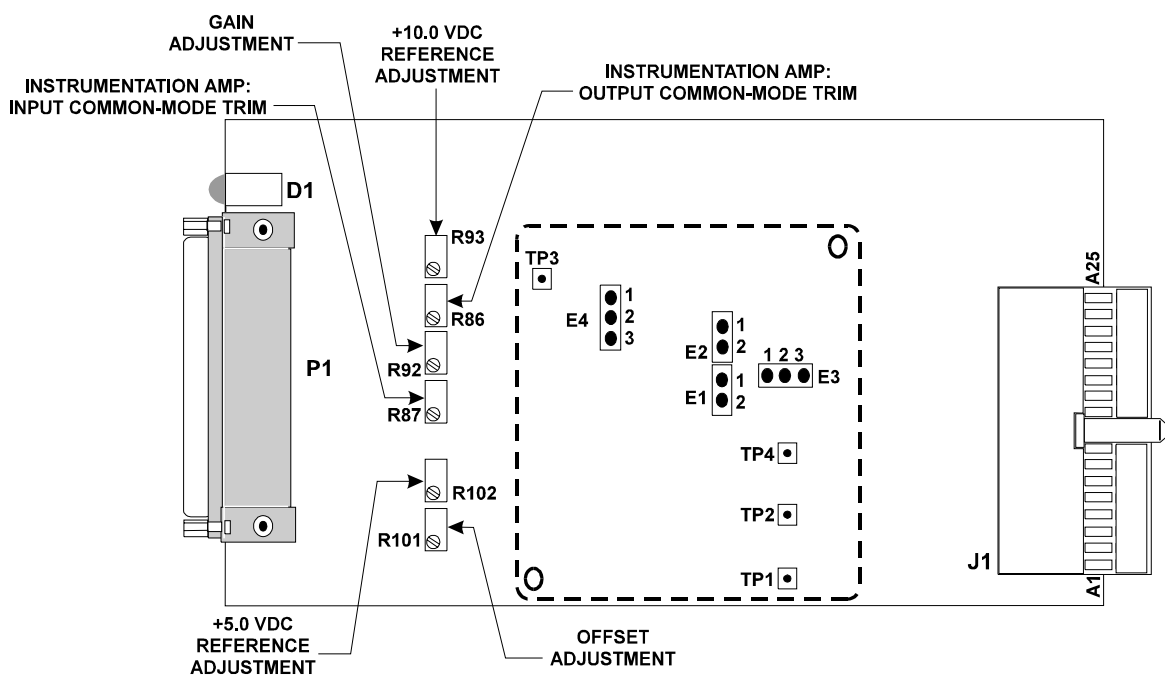

Figure 2-2 Location of Test Points, Potentiometers, and Jumpers
As with other PCI bus cards, the I/O address space, through which the VMICPCI-3322 board operates, is assigned dynamically by the system BIOS and is not predefined by jumpers. The VMICPCI-3322 does provide four jumpers that determine the input range and type. Location and function of the VMICPCI-3322 jumpers are shown in Figure 2-2 on page 35 and listed in Table 2-1 below.
The conversion range of the VMICPCI-3322 board is configured using the jumper combinations shown in Table 2-2 below. See Figure 2-2 on page 35 for jumper locations.
Before delivery from the factory, the VMICPCI-3322 board is fully calibrated and conforms to all factory specifications. Should recalibration be required, however, perform the appropriate procedures in *Base Address Determination* section on page 39 with the test equipment listed in the *Equipment Required* section below. The locations of all adjustments and test points are shown in Figure 2-2 on page 35. Adjustment potentiometers and their functions are listed in Table 2-3 below.
1. Connect the DMM between TP2(+) and TP1(-). (See Figure 2-2 on page 35.)